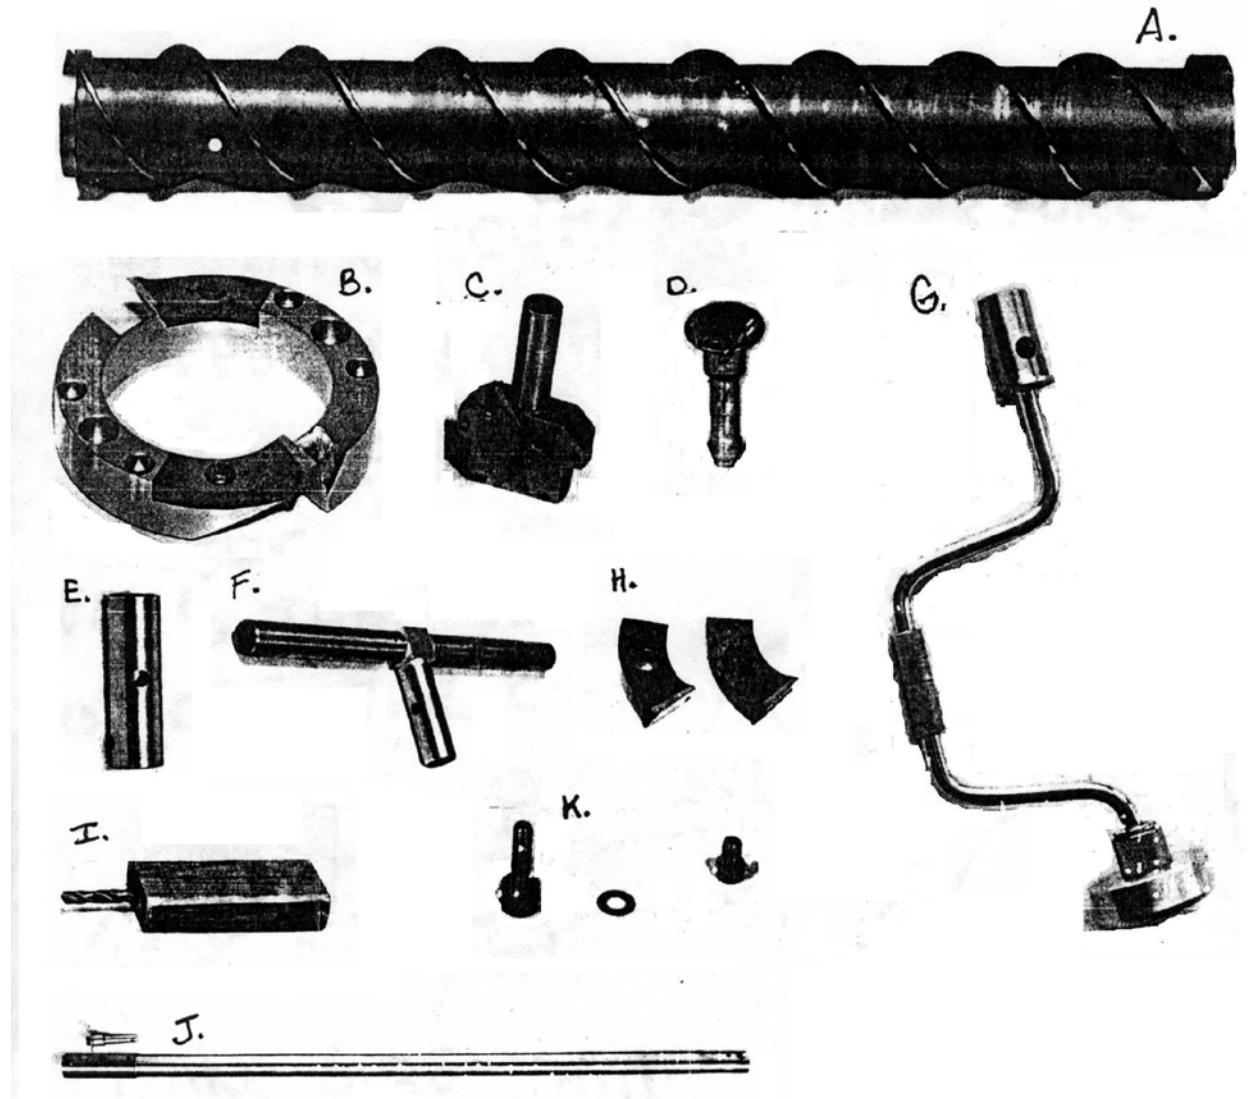

Figure 1: SIPRE Kit Parts
- The core barrel (Item A, Figure 1) [core head (Item B, Figure 1) attached].
- The drive adapter (Item C, Figure 1).
- The adapter tube (Item E, Figure 1).
- The brace handle (Item G, Figure 1).